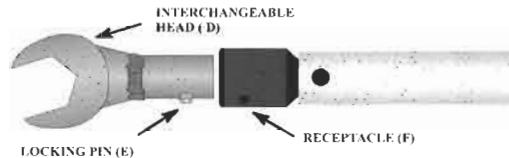

Figure 1
1. To set the torque values, loosen locking set screw (A) with a 3/32" hex wrench.
2. Insert interchangeable plain drive head (D) (consult factory for model number) into receptacle (F) until the locking pin (E) is fully engaged with the corresponding receptacle hole. (See Figure 1)
3. Place a T-handle hex wrench through adjusting hex opening (C) at rear of handle grip until engaging the adjusting screw (B).
4. Place the wrench on a torque tester. Turn adjusting screw (B) with the T-handle hex wrench clockwise to increase torque and counter-clockwise to decrease torque.
5. To set torque, apply a slow steady force on the preset wrench. Turn adjusting screw (B) until the desired torque setting is displayed on the torque tester.
6. Tighten the locking set screw (A). To ensure that wrench setting is repeatable, cycle three more times. If the readings are not as desired, repeat steps 1-5.